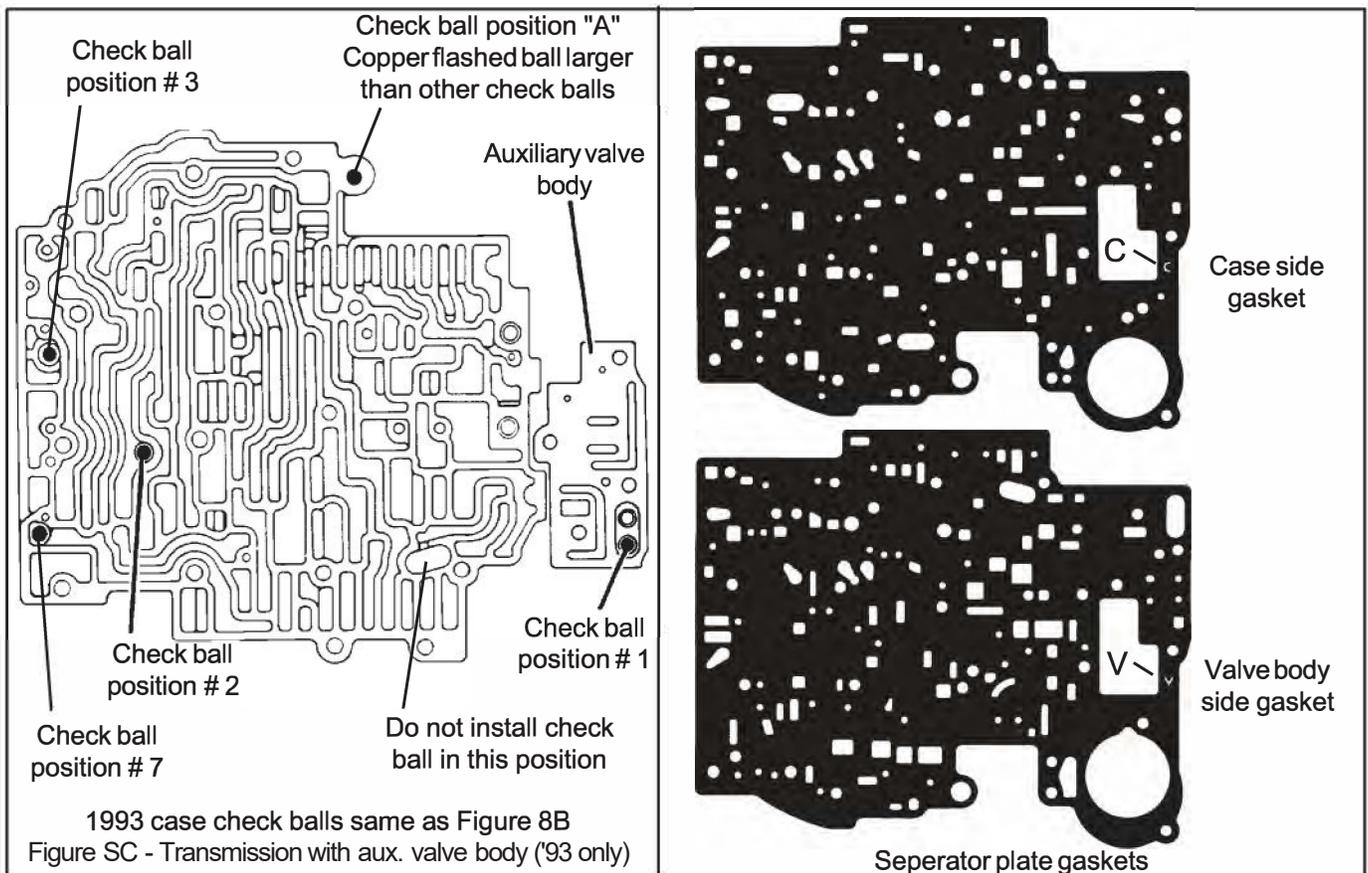

Figure 9
STEP 12. Place the new separator plate gaskets on the separator plate (See Fig. 9.) Use a dab of grease or petroleum jelly to help hold the gaskets to the plate. The gasket with the 'C' cut in it goes next to the **case** and the gasket with the 'V' cut in it goes next to the **valve body**. Make sure no holes in the separator plate are **covered** by the gasket.